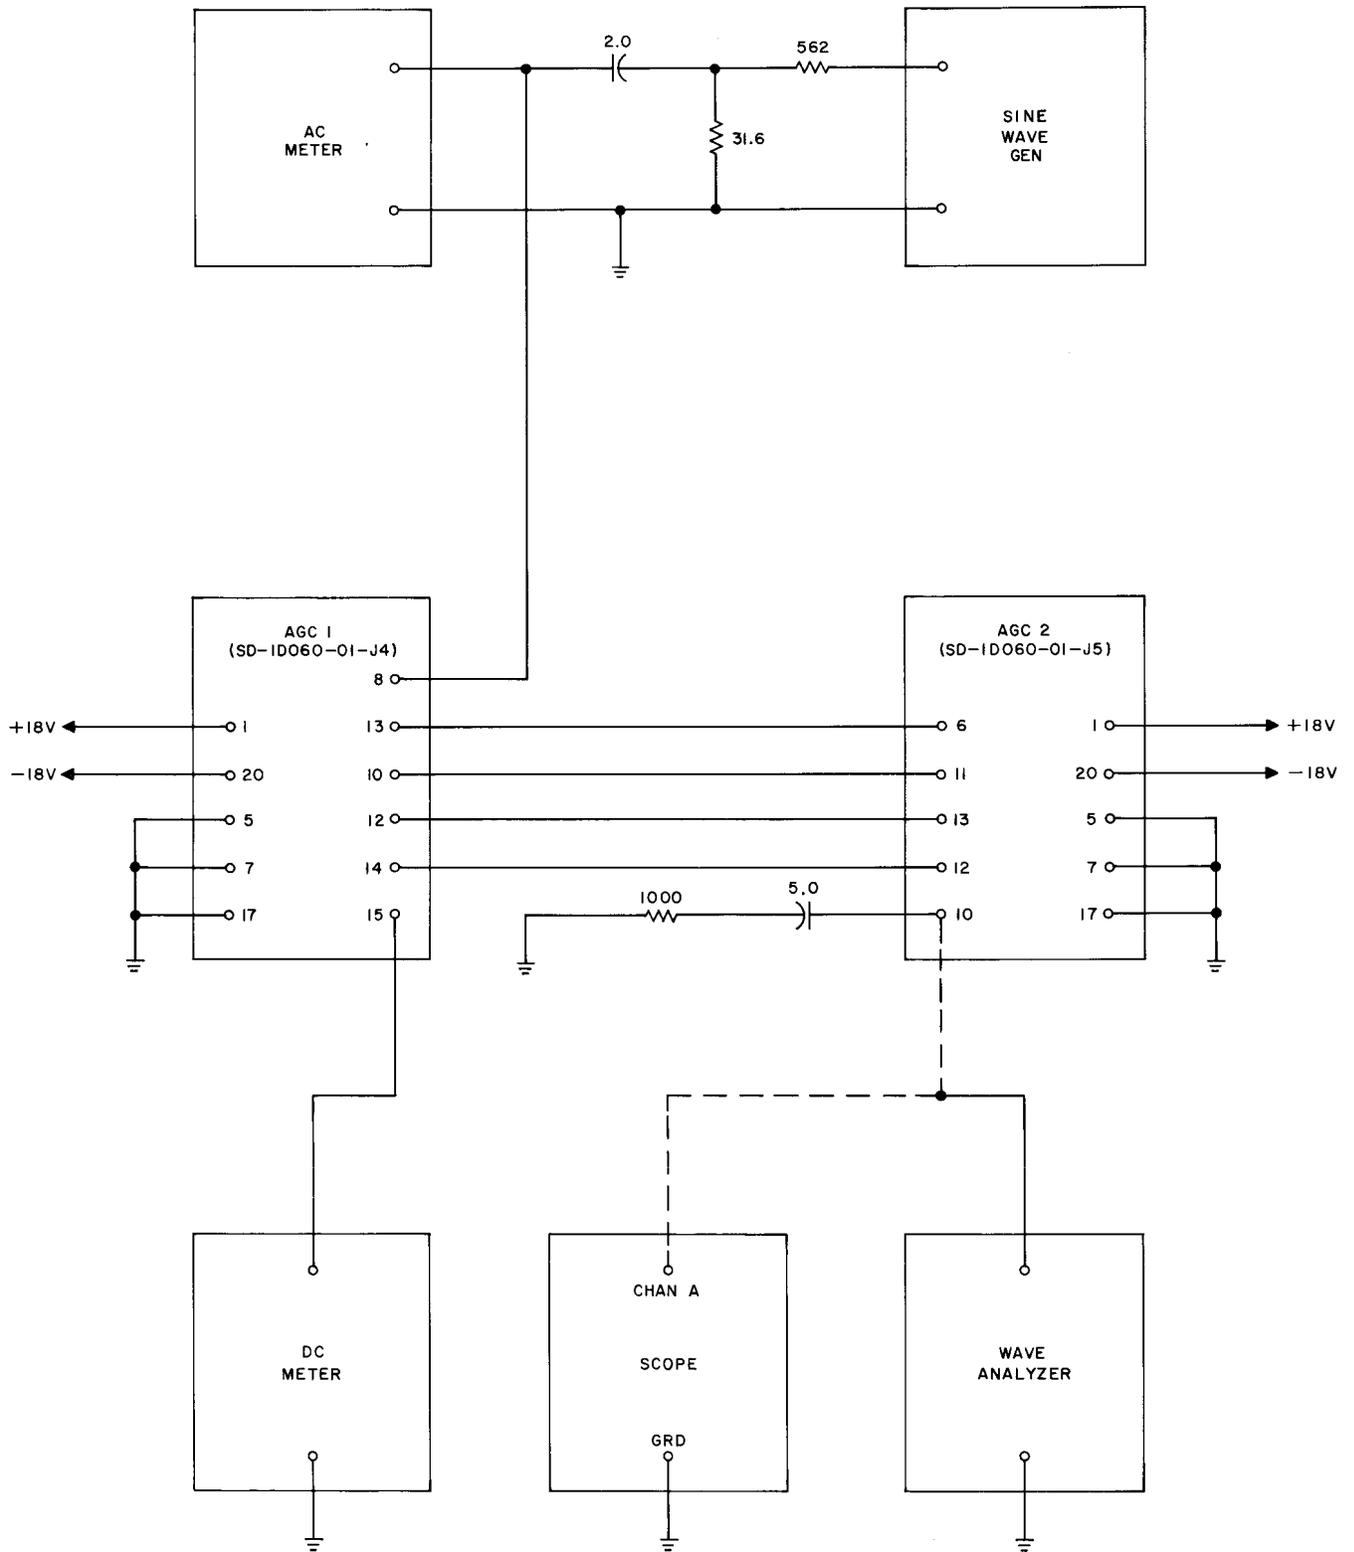

Fig. 21A — Automatic Gain Control 1 Test Circuit
(1) The gain control test of the AGC1 circuit pack is made in conjunction with the AGC2 circuit pack. Connect the circuit packs as in the suggested test circuit shown in Fig. 21A with the scope connected to terminal 10 of the AGC2 circuit packs. Connect power to both circuit packs as specified in 5.11A (1).
(2) Connect the sine-wave generator in series with a 2.0 uf capacitor to terminal 8 of the AGC1 circuit pack. Set the frequency of the generator to 1800 Hz (± 5 percent). Set the output level of the generator to 0.
(1) The distortion measurement of the AGC1 circuit pack is made in conjunction with the AGC2 circuit pack. Connect the circuit packs to the suggested test circuit shown in Fig. 21A, with the wave analyzer connected to terminal 10 of the AGC2 circuit pack. Apply power to both circuit packs as in 5.11A (1).
(2) With the wave analyzer connected to terminal 10 of the AGC2 circuit pack, apply a $78 (\pm 1)$ mV rms signal at 600 Hz (± 5 percent) to input terminal 8 of the AGC1 circuit pack. Tune the wave analyzer to obtain a peak reading on the meter at the fundamental frequency of 600 Hz. Set the meter indication to 0 dB by adjusting the wave analyzer reference adjustment.
(3) Tune the wave analyzer for a peak meter reading in the vicinity of the second harmonic frequency of 1200 Hz. The meter should indicate 30 dB or lower at the second harmonic frequency.